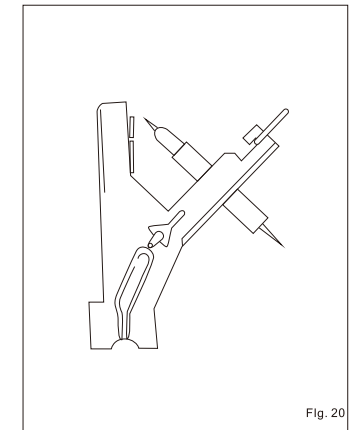

Fig. 20
- The electronic ignition will not function if it is wet. Be careful not to spill water, soup, etc. On it.(Fig. 20)